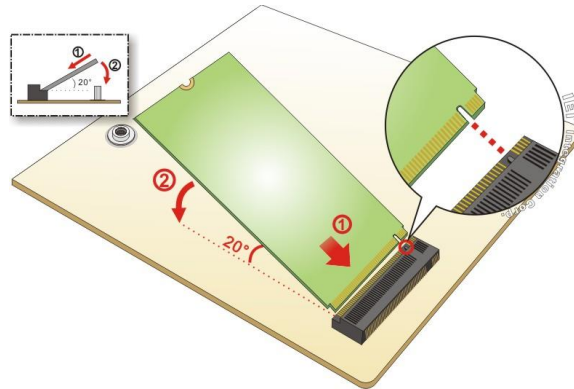

Figure 3-4: Inserting the M.2 SSD into the Slot at an Angle
Step 5: Line up the notch on the M.2 SSD with the notch on the slot. Slide the M.2 SSD into the socket at an angle of about 20° (**Figure 3-4**).